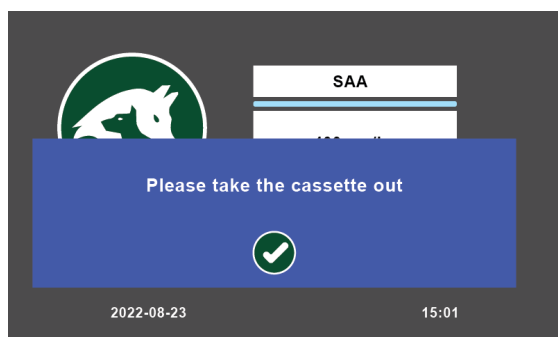

Figure 20. Pop up Message screen
- Once the measurement is completed, the analyte test result with the Patient ID will appear. See Figure 20.